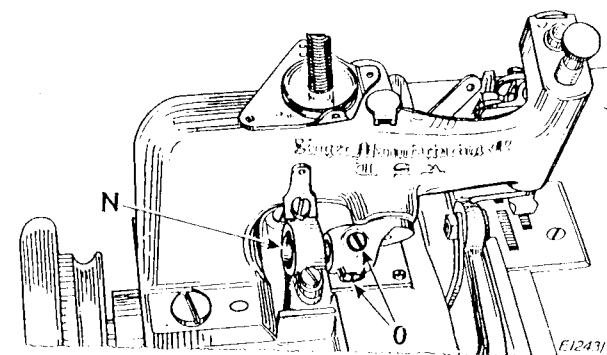

Fig. 11. To Change the Needle Bar Stroke
A variation in the amount of needle bar stroke can be obtained by adjusting the ball stud (N, Fig. 11). To lengthen the stroke, loosen the two set screws (O, Fig. 11) in the needle bar crank and move the ball stud inwardly or toward the crank. To shorten the stroke of the needle bar, move the ball stud outwardly or away from the crank, then securely tighten the set screws (O).